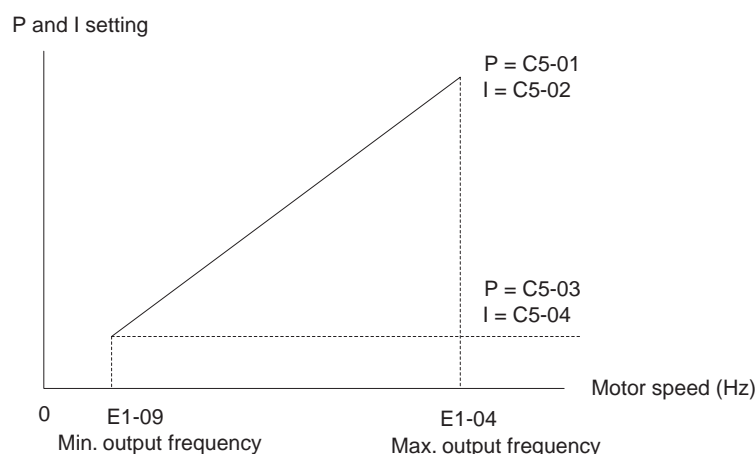

Fig 6.70 Speed Control Gain Integral Time Adjustment for V/f Control with PG
When using V/f control with PG, set the proportional gain (P) and the integral time (I) at E1-09 (minimum output frequency) and E1-04 (maximum output frequency). *Fig 6.70 Speed Control Gain Integral Time Adjustment for V/f Control with PG* shows how the proportional gain and integral time change in linear fashion based on the speed.